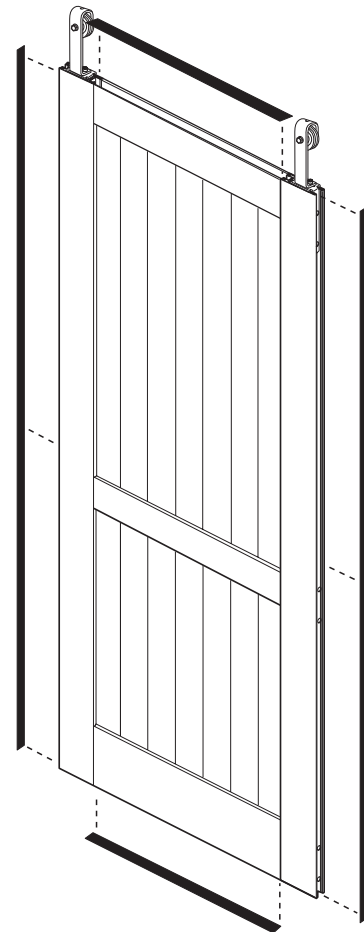

Figure 14
Snap the 2 side finishing strips (M) into place. Snap the top and bottom then the sides (N) into place. See Figure 14.